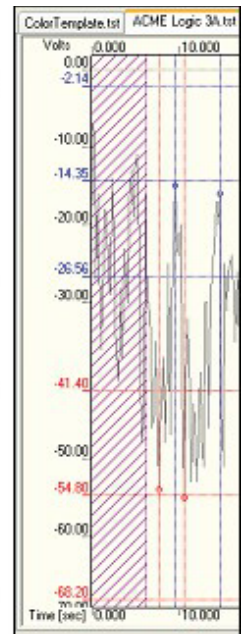

Figure 26: 3-Sigma Ranges are calculated and plotted for Minimum & Maximum Peak Sets
8. The 3-Sigma Analysis is calculated for the Maximum and Minimum data sets and displayed as follows (Figure 26):